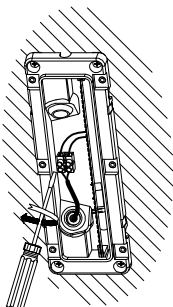

Fig. 5
- Replace the clear diffuser and tighten the six screws, do not overtighten these screws or distort the gasket Fig. 5.